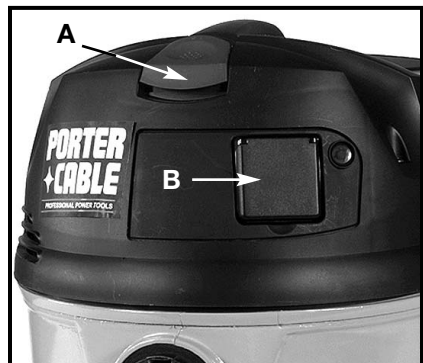

Fig. 5
The power switch (A) Fig. 5 on both the 7812 and 7814 models is used for the Vacuum Cleaner as a stand alone unit. When not using a power tool, depress power switch (A) Fig. 5 to begin vacuuming.
These vacuums can be used to provide a dust-free environment when attached to a power tool. An accessory outlet is located under a hinged cover (B) Fig. 5 on the front of the vacuum cleaner. Lift this cover to expose the outlet.
Connect the power cord of the power tool to outlet (B) Fig. 5, then depress power switch (A) Fig. 5 on the vacuum cleaner. A green light, located next to the outlet, will glow. This light indicates that the vacuum will start automatically when the power tool is activated.